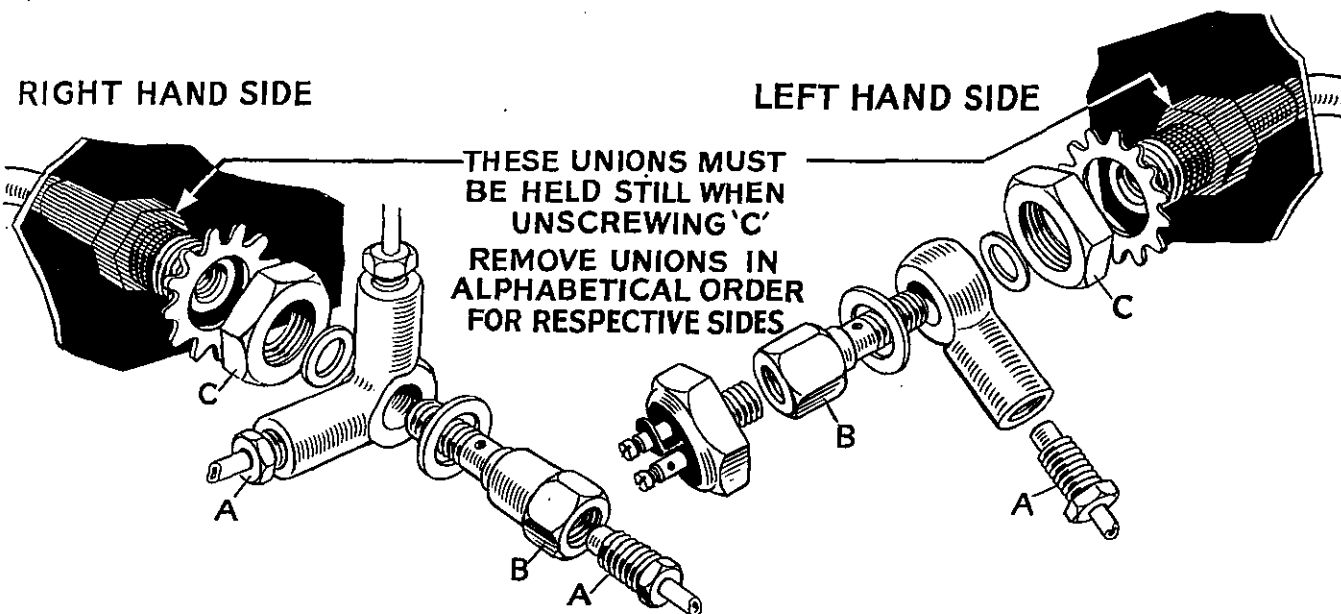

Fig. 4. Front brake hydraulic pipe connections
10. Disconnect the brake hose from the body valance. This detachment necessitates the removal, in the case of the right hand side of the Car, of the two lower hydraulic unions and barrel nut to allow access to the nut which secures the hose to the valance, as shown in Fig. 4. The banjo union on the left of the car has only one union to remove in addition to the barrel nut. No attempt